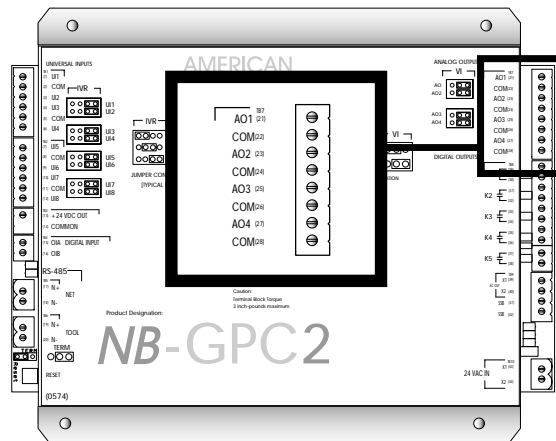

Figure 2-15: Location of the Analog Outputs
The NB-GPC2 has four (4) analog output objects. Outputs are connected to the NB-GPC2 via terminal blocks TB7. Each output has a common terminal associated with it. The common terminal provides a ground connection for the output. The analog outputs on the NB-GPC2 are shown in Figure 2-15.